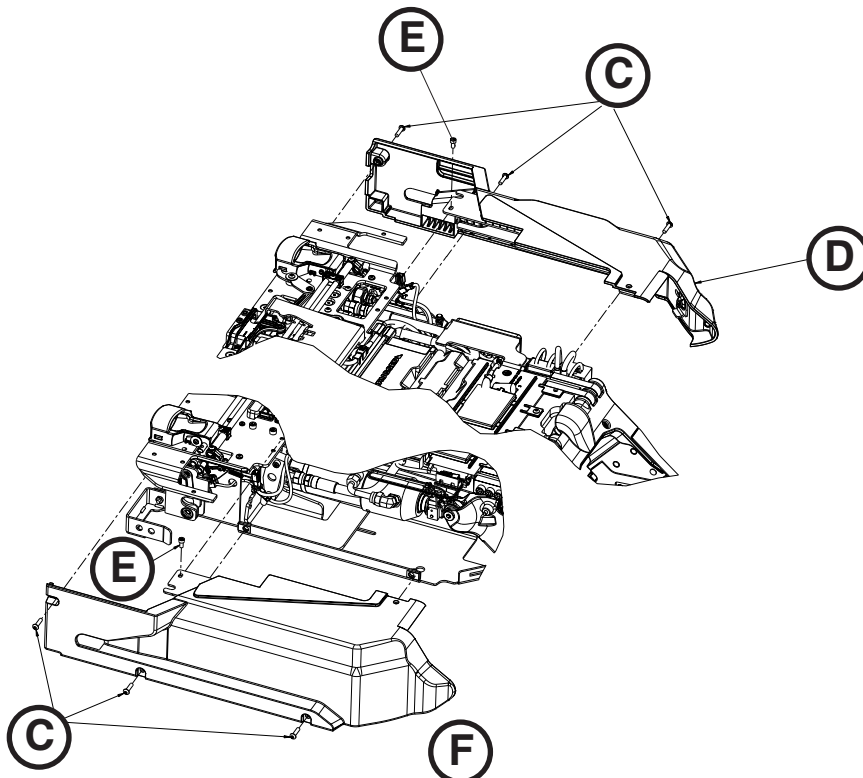

Figure 63
2. Using a T25 Torx driver, remove the three screws (C) left side cover (D) (Figure 63).
3. Using a 5/32" hex wrench, remove one hex head screw (E) from the top of the left side cover (D) (Figure 63).
5. Repeat steps 2-4 to remove the side cover, right (F) (Figure 63).